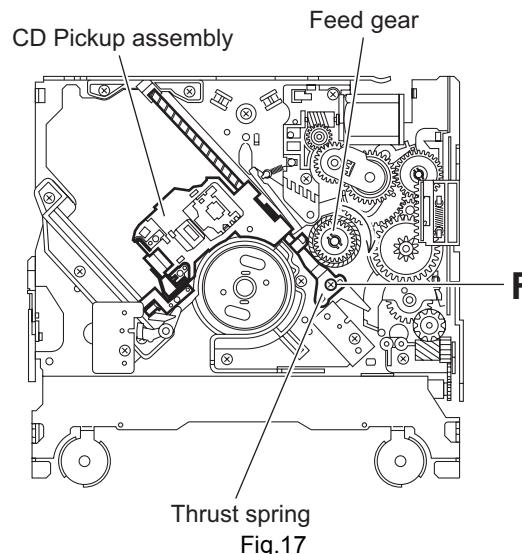

Fig.17
(See Figs.17 to 19)
- (1) From the bottom of the CD mechanism assembly, turn the feed gear in the direction of the arrow to move the CD pickup assembly outwards. (See Fig.17)
- (2) Remove the screw **F** attaching the thrust spring. (See Fig.17)